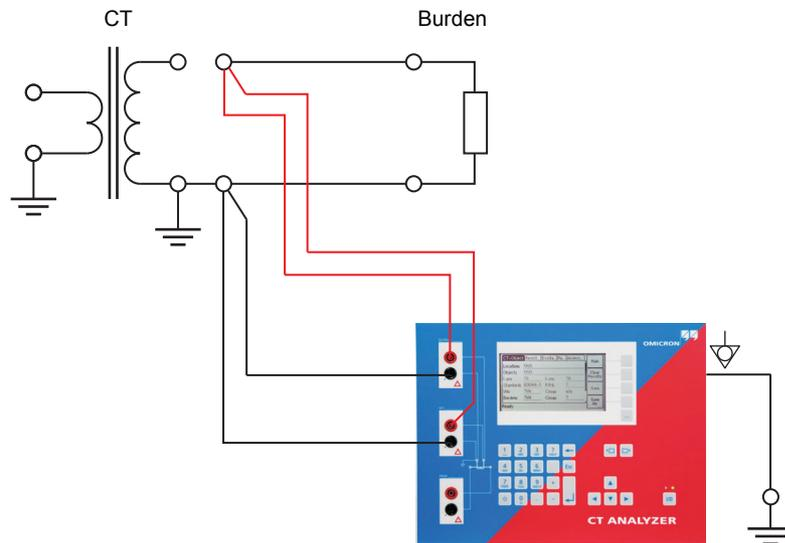

Figure 4-2 Basic wiring for a burden test
For a burden test, connect the *CT Analyzer* as shown in Figure 4-2.
1. Connect the *CT Analyzer*'s equipotential terminal to protective earth (PE).
2. Open the connection line to the ungrounded side of the CT (refer to Figure 4-2). Otherwise, the *CT Analyzer* measures the parallel impedance of the burden and the CT winding instead of the burden itself.